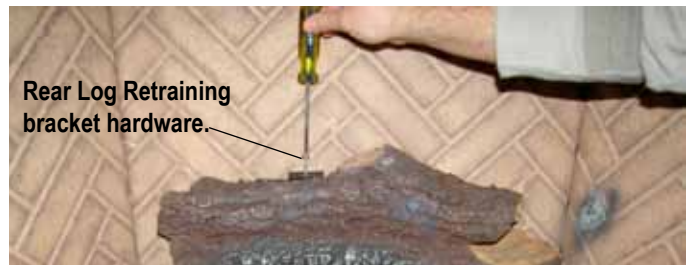

Figure 29e. Fastening Retaining bracket to Rear Log.
2. Locate the retaining bracket as shown, slide bracket behind Rear Log retaining plate as shown in figure 29d. Fasten bracket to log as shown in figure 29e, (use supplied hardware).